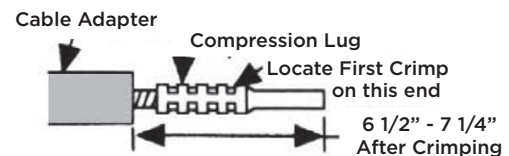

Fig. 8 - Final Crimp Dimensions
- b. Measure check dimension after crimping to verify it is between 6 1/2" and 7 1/4". (See Figure 8.)